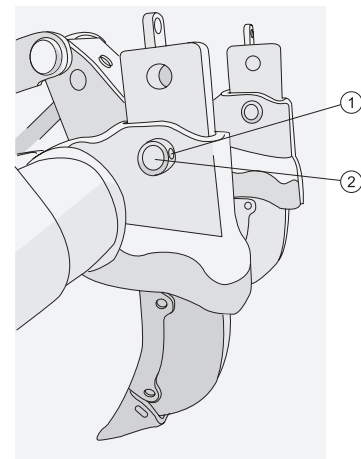

Figure 4-53
1. Adjustment of the ripper's ripping depth (Figure 4-53)
- Use the two pin holes on the ripper shank to make the adjustment, and generally the hole on the bottom is used. When you need to increase the ripping depth, use the upper hole. You can point an iron rod with a sharp end to pin (1) and hit it with a hammer, and then pull out pin (2), to change the mounting hole's position of the tooth angle (top or bottom).